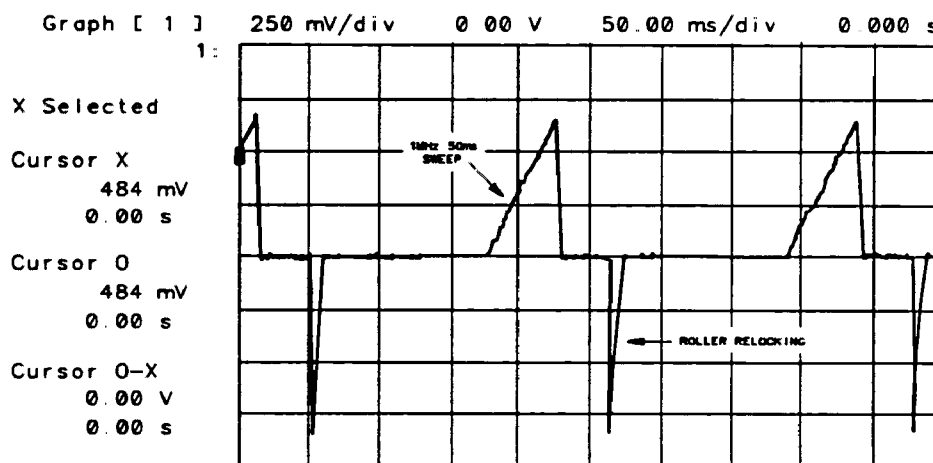

Figure 11-6. Input to YTO FM Coil Driver
2. Set an oscilloscope to the settings listed below and monitor A14J17 pin 1. The waveform should look similar to Figure 11-6.